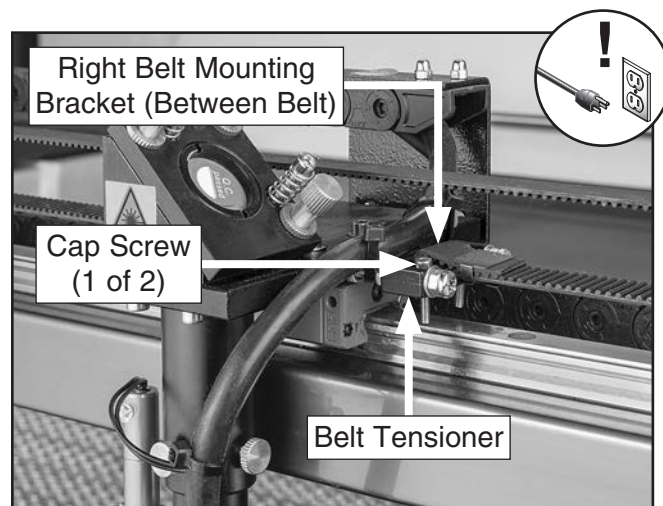

Figure 80. X-axis right belt mounting bracket location.
3. Remove (2) cap screws on right belt mounting bracket securing X-axis synchronous belt, then remove bracket from belt (see **Figure 80**).